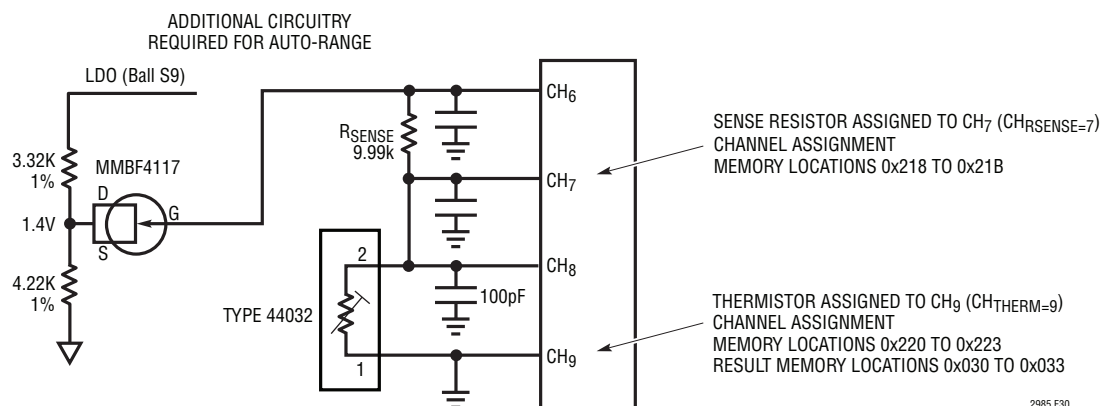

Figure 30. Differential Thermistor Example
*Additional Circuitry required for auto-range, see Figure 30.
Figure 30 shows a typical temperature measurement system using a differential thermistor. In this example a 30k Ω (44032 type) thermistor is tied to a 9.99k Ω sense resistor. The thermistor is assigned channel CH9 (memory locations 0x220 to 0x223) and the sense resistor to CH7 (memory locations 0x218 to 0x21B). Channel assignment data is shown in Table 62 and Table 63).
Note 1: Additional Circuitry required for thermistors using auto-range. See Figure 30.